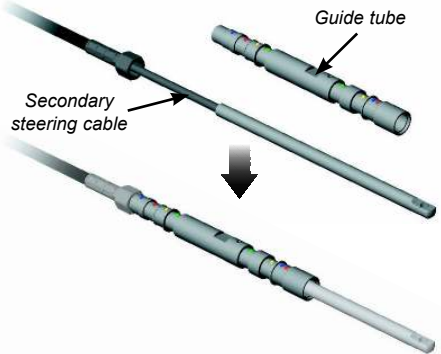

Fig B26 - Fitting the secondary steering cable to the guide tube
- Insert the rod end of the secondary steering cable into the threaded end of the guide tube (Fig B26).